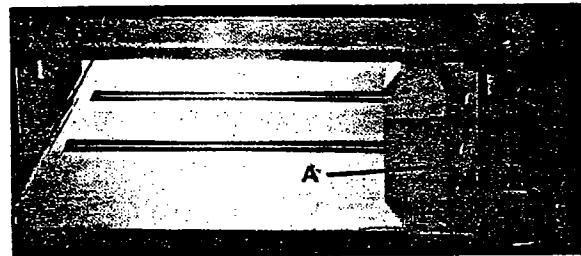

Fig. 34
3. Move gage block (A) Fig. 34, to opposite end of table, as shown. Distance from table to edge of head casting should be the same.